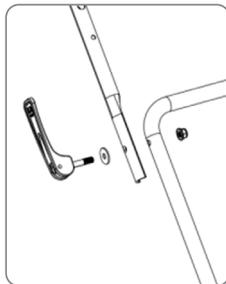

Fig. 2
2. Mount the upper handlebar onto lower handlebar. Thread the quick-lock bolt through the flat Ø8 washer, then connect the upper and lower handlebars together and tighten them to a certain degree with an M8 nut (Fig. 2).